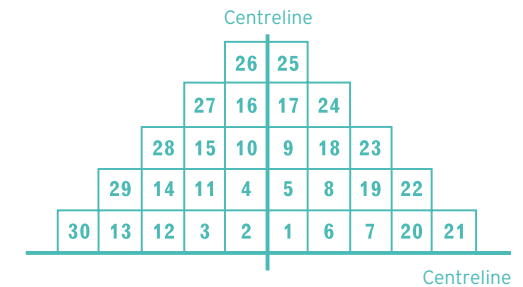

Figure 6.9 Pyramid layout
- ▶ Lay the first pyramid of tiles from the centrelines, using the sequence shown in Figure 6.9. Ensure a close bond is maintained at all times.
NOTE Construction of a pyramid should always start at the centre of the baseline, working in the same sequence as shown in Figure 6.9.